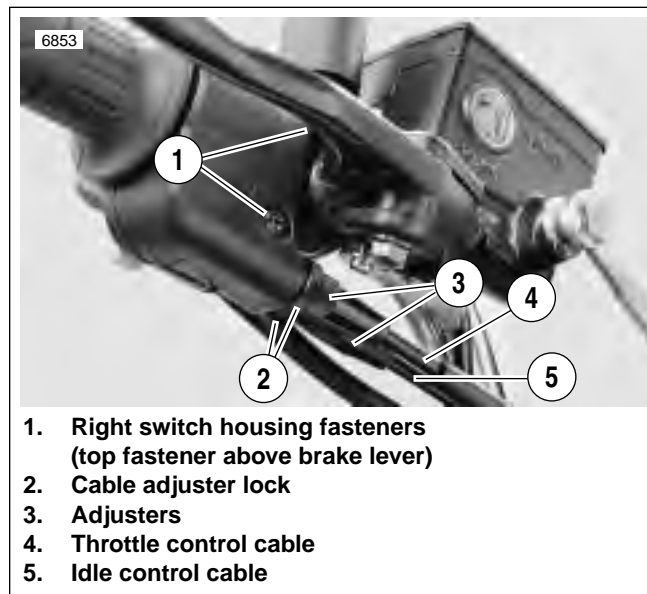
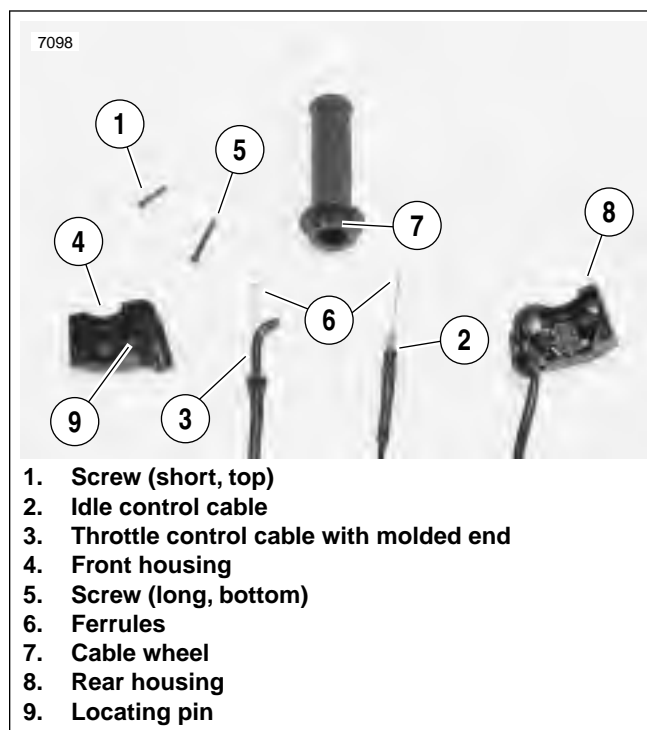

Figure 2-96. Throttle Control Cables
Figure 2-97. Cable Connections
2. See Figure 2-96. Loosen cable adjuster lock (thick disc) (3) on each cable.
3. Turn adjusters (3) in direction which will shorten cable housings to minimum length.
4. Remove fasteners (1) on right switch housing and separate housing from handlebar.
5. See Figure 2-97. Remove cables (2, 3) from notches in front housing (4).
6. Remove cables (2, 3) and ferrules (6) from cable wheel (7).
3. Install throttle grip and position ferrules (6) into cable wheel (7).
7. See Figure 2-96. Attach rear switch housing and position housings on right handlebar by engaging locating pin on front housing with hole in handlebar. Attach housings with two fasteners, installing longer fastener on bottom. Tighten to 25-33 **in-lbs** (3-4 Nm).